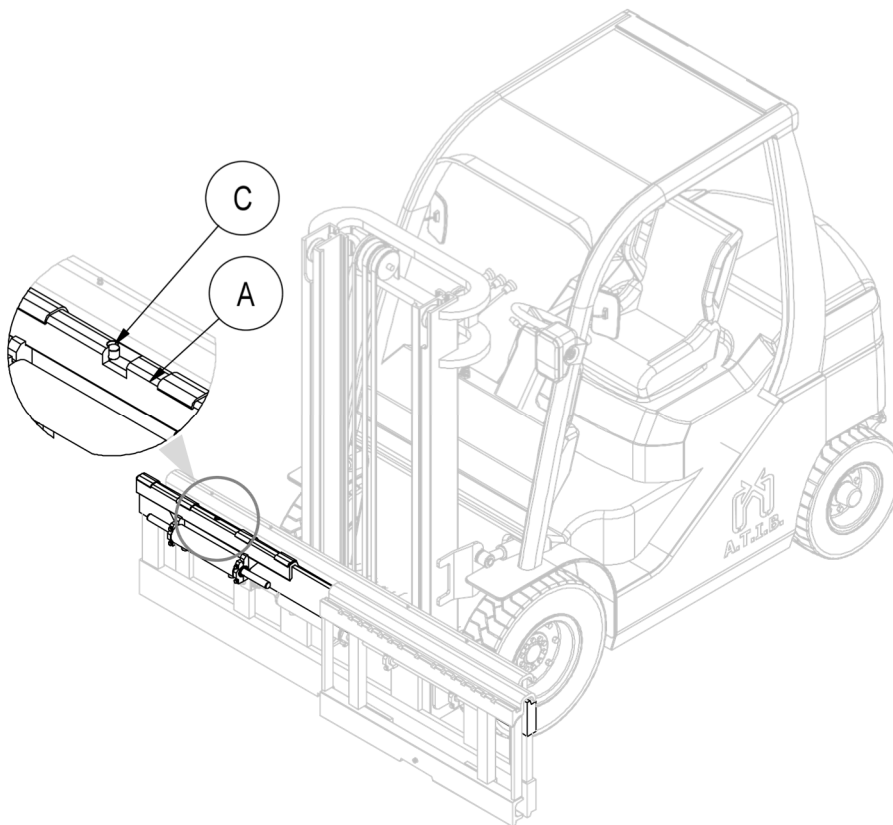

Figure 7
2. Take the double coupling **A** (with its sliding bushes and sideshift cylinder), and place it on the upper profile of the rear structure, taking care to fit the pin **C** into its centring notch (see *Figure 7*).